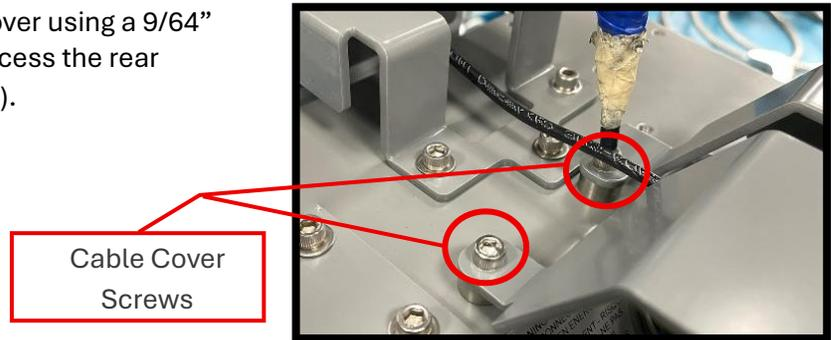

Figure 1: Remove Rear Cable Cover
1. Remove the rear cable cover using a 9/64" Allen or hex wrench to access the rear enclosure panel (Figure 1).